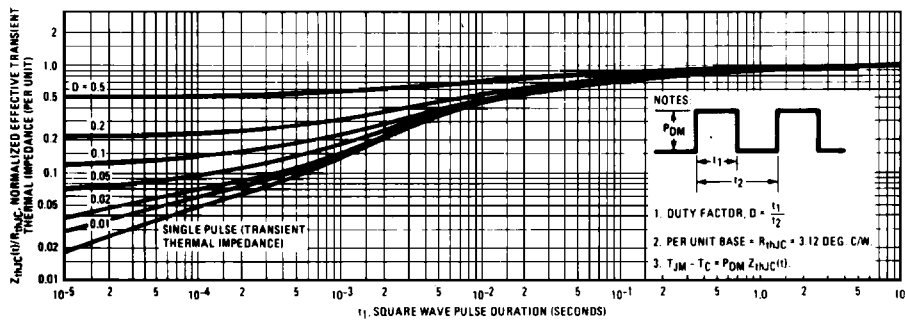

Fig. 5 - Maximum Effective Transient Thermal Impedance, Junction-to-Case Vs. Pulse Duration
3. Repetitive rating: Pulse width limited by maximum junction temperature. See Transient Thermal Impedance Curve (Figure 5).
Impedance Curve (Figure 5)